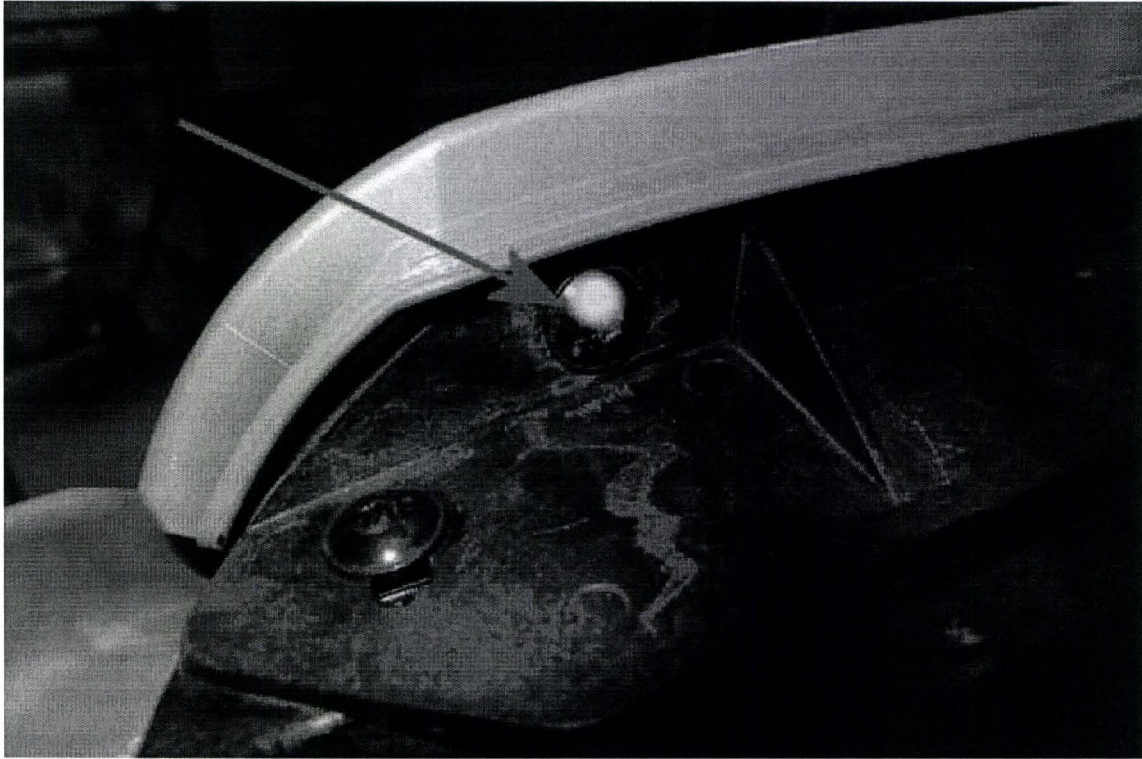

Figure 7
If the vehicle is not already listed as repaired in "Repair history" (in Elsa Pro) check the vehicle for the campaign completion paint mark which is a yellow paint confirmation mark on the left hand fixing screw (Figure 7). If it is evident that the campaign has not been applied carry out the required work in accordance with these instructions.
- Place a yellow paint completion mark on the left hand radiator shell fixing (Figure 7)
Yellow paint completion mark on the left hand radiator shell fixing (Figure 7)